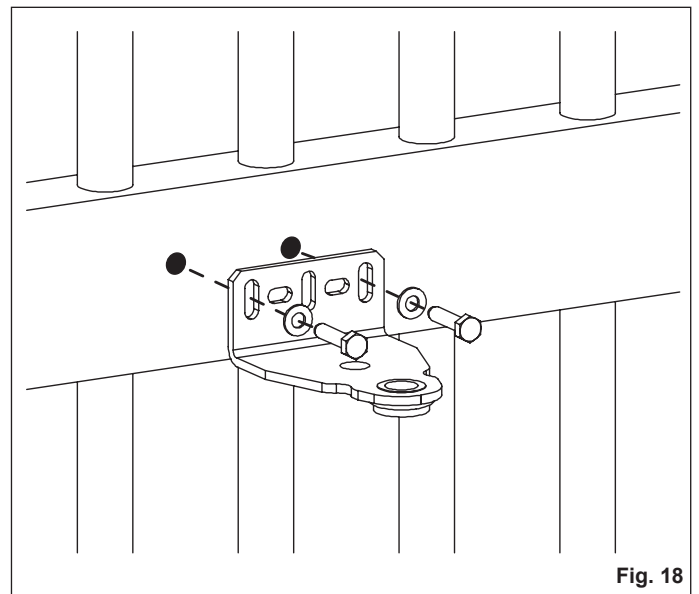

Fig. 18
- Permanently secure the front bracket, using a suitable securing system as indicated in Figure 18.